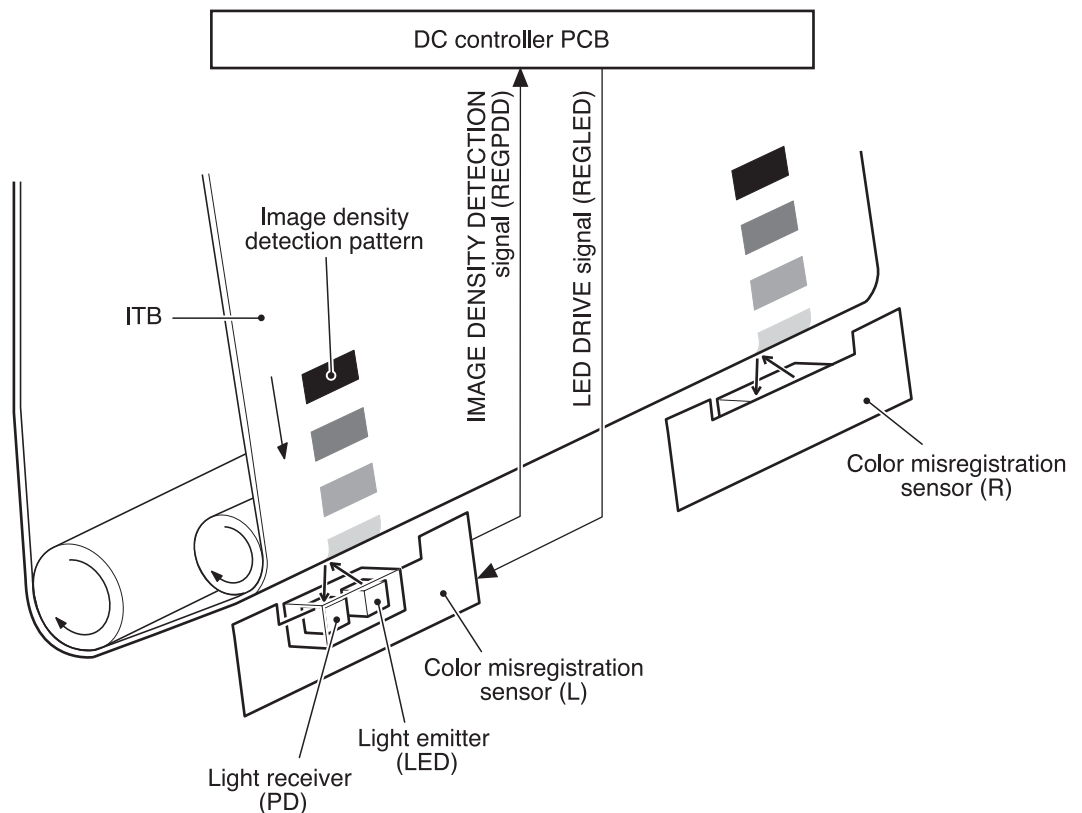

Figure 5-56. Image density detection
The following is the sequence of this control. (See Figure 5-56. Image density detection on the following page.)
2. The DC controller measures the density of each detection pattern by controlling the color misregistration sensor. (See Figure 5-56. Image density detection, on the following page)
2. The DC controller detects the density of the density detection patterns on the ITB by the image density detection and sends the data back to the formatter. (See Figure 5-56. Image density detection, below)